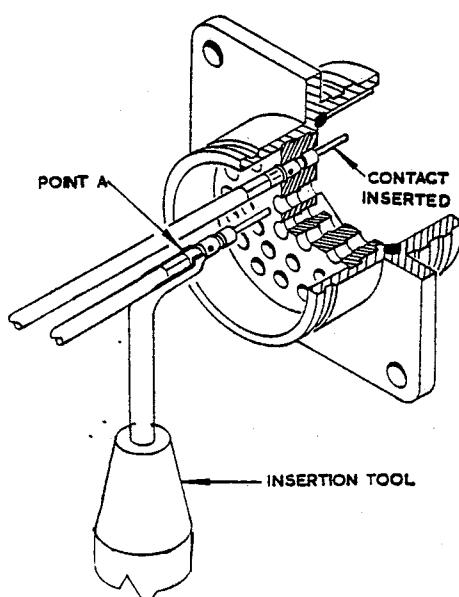

Fig. 16. Inserting contacts
34. The crimping operation will form a flat area on the contact just in front of the contact insulator grip (point A). Place this flat into the slot of the insertion tool (fig.16).